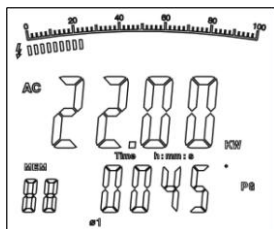

Figure 7
1. Press **SEL** to choose first phase Ø1, see figure 7. The double displays show the active power kW value and the PG value of the second phase 1.